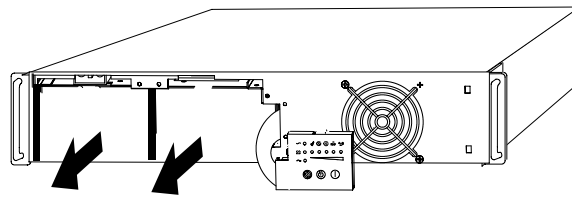

Figure 44. Removing the Battery Trays
5. Pull the battery trays out onto a flat, stable surface (see Figure 44). See "Recycling the Used Battery or UPS" on page 57 for proper disposal.